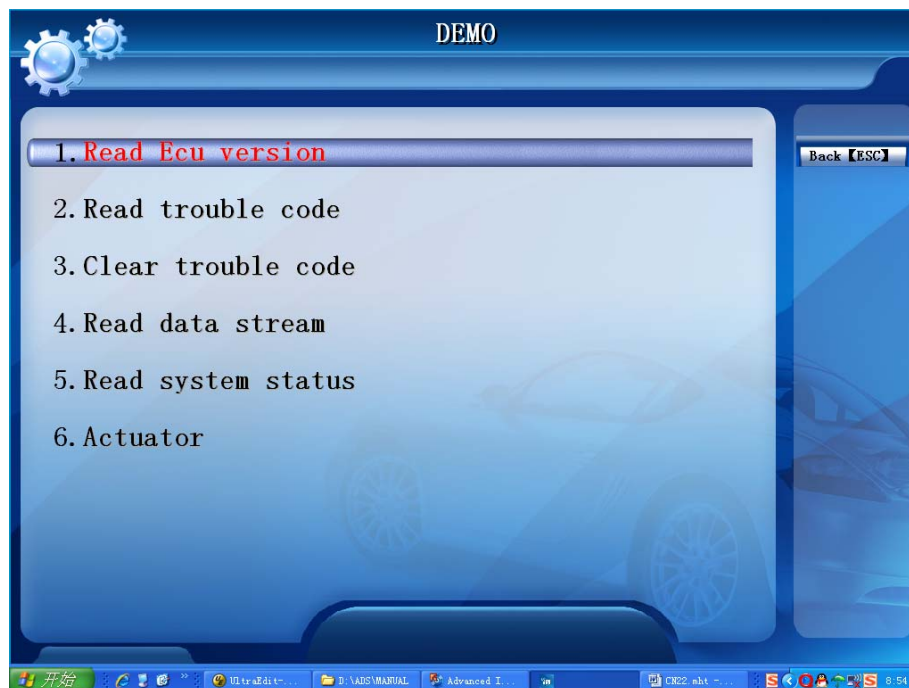

Figure-11
11. Click "OK", appears the functional selection interface, as shown in figure-11